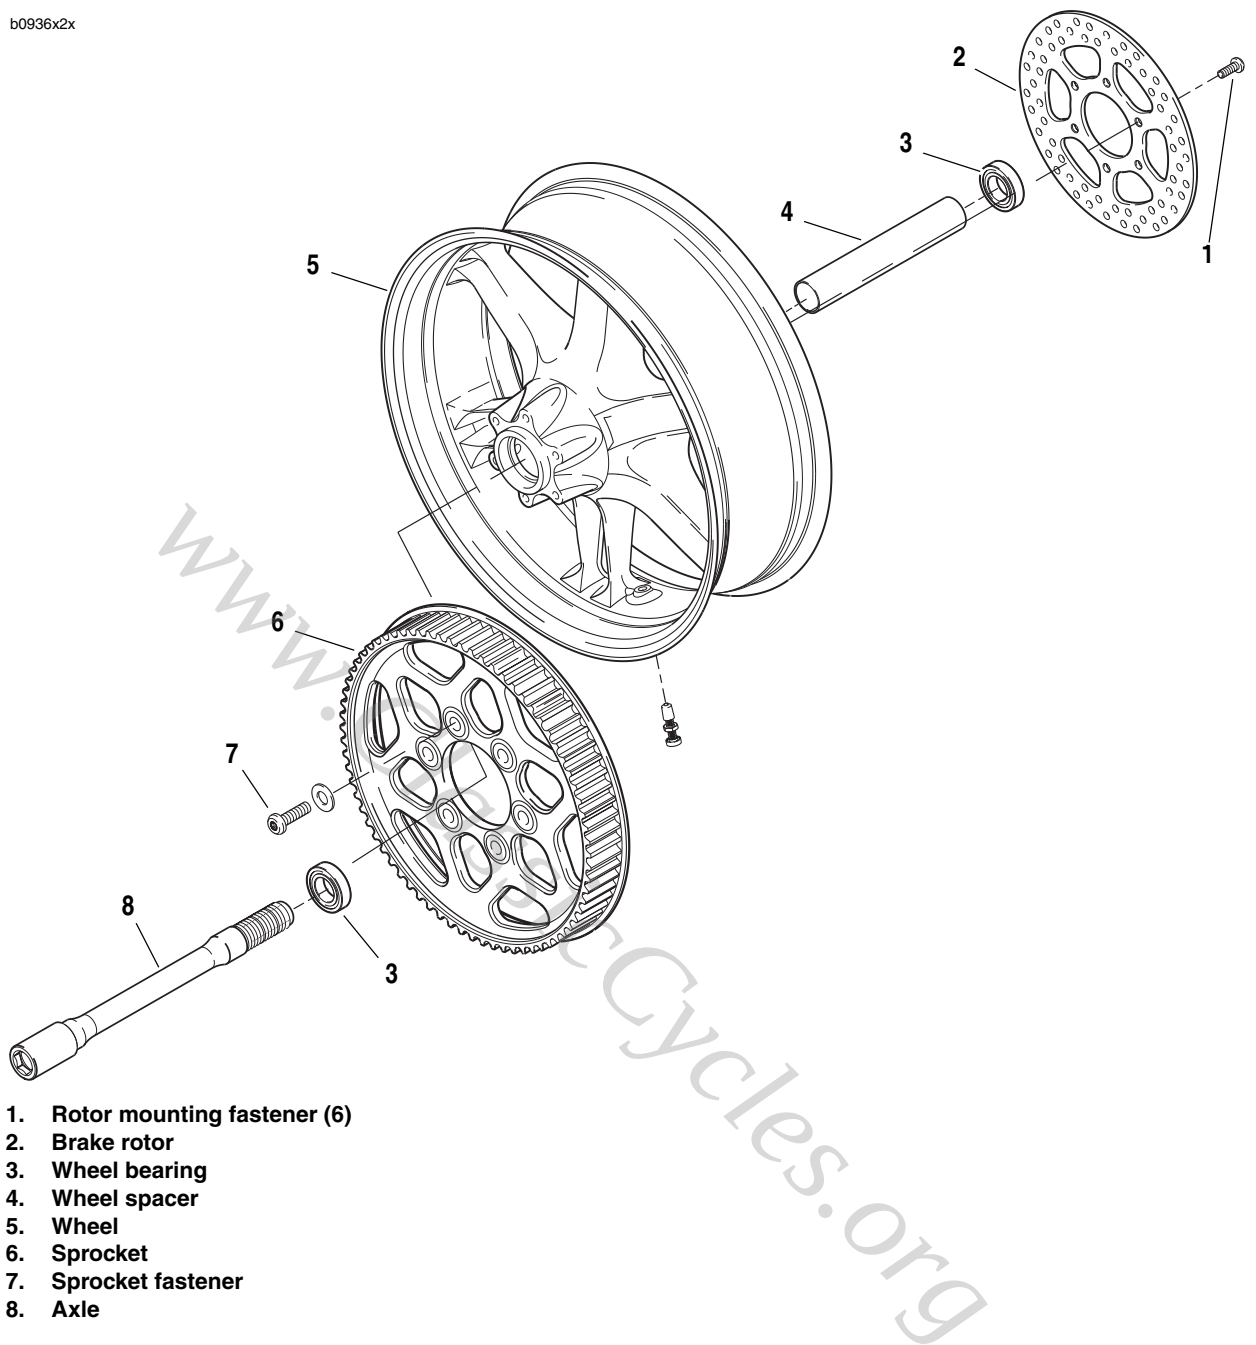

Figure 2-22. Rear Wheel Assembly
- a. See Figure 2-22. Remove and discard rotor mounting fasteners (1).